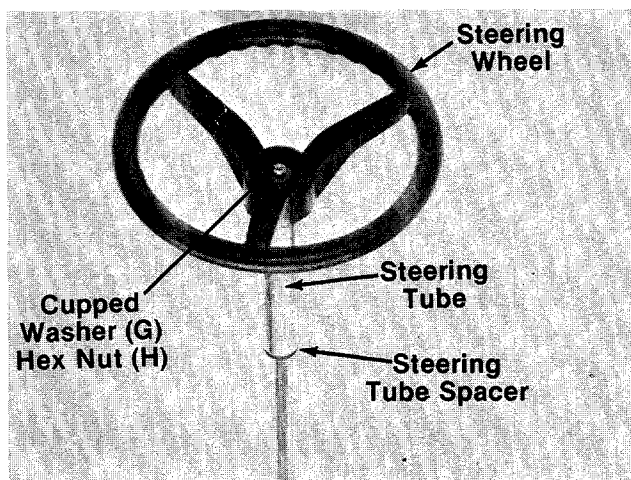

FIGURE 5.
4. With the steering shaft in the normal upright position (end with flattened portions up), slide the steering tube spacer and steering tube down over the shaft. See figure 5.
5. Place steering wheel (Q) over the end of the steering shaft, lining up the flattened portions of the steering shaft with the flattened portions of the steering wheel. Make certain steering wheel is seated over the end of the steering tube.
6. Place cupped washer (G) over the steering shaft, with the cupped side of the washer against the steering wheel. Secure with hex nut (H) (5/16" I.D.). See figure 5. Tighten securely.